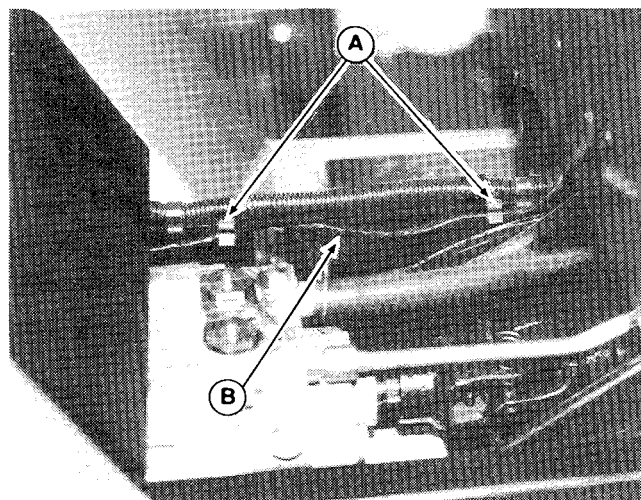

Figure 7.
19. Install two clips (A, figure 7) on underside of the frame and route the rear harness (B) back to the clutch, when installed (see following procedure).